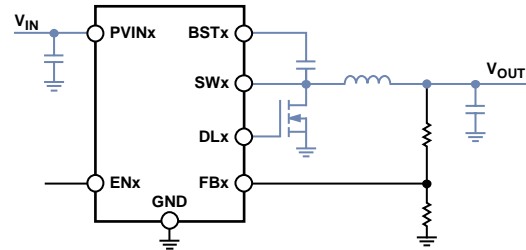

Figure 22. Typical Circuit with High Current Traces Shown in Blue
- Ensure that the high current loop traces are as short and wide as possible. The high current path is shown in Figure 22.